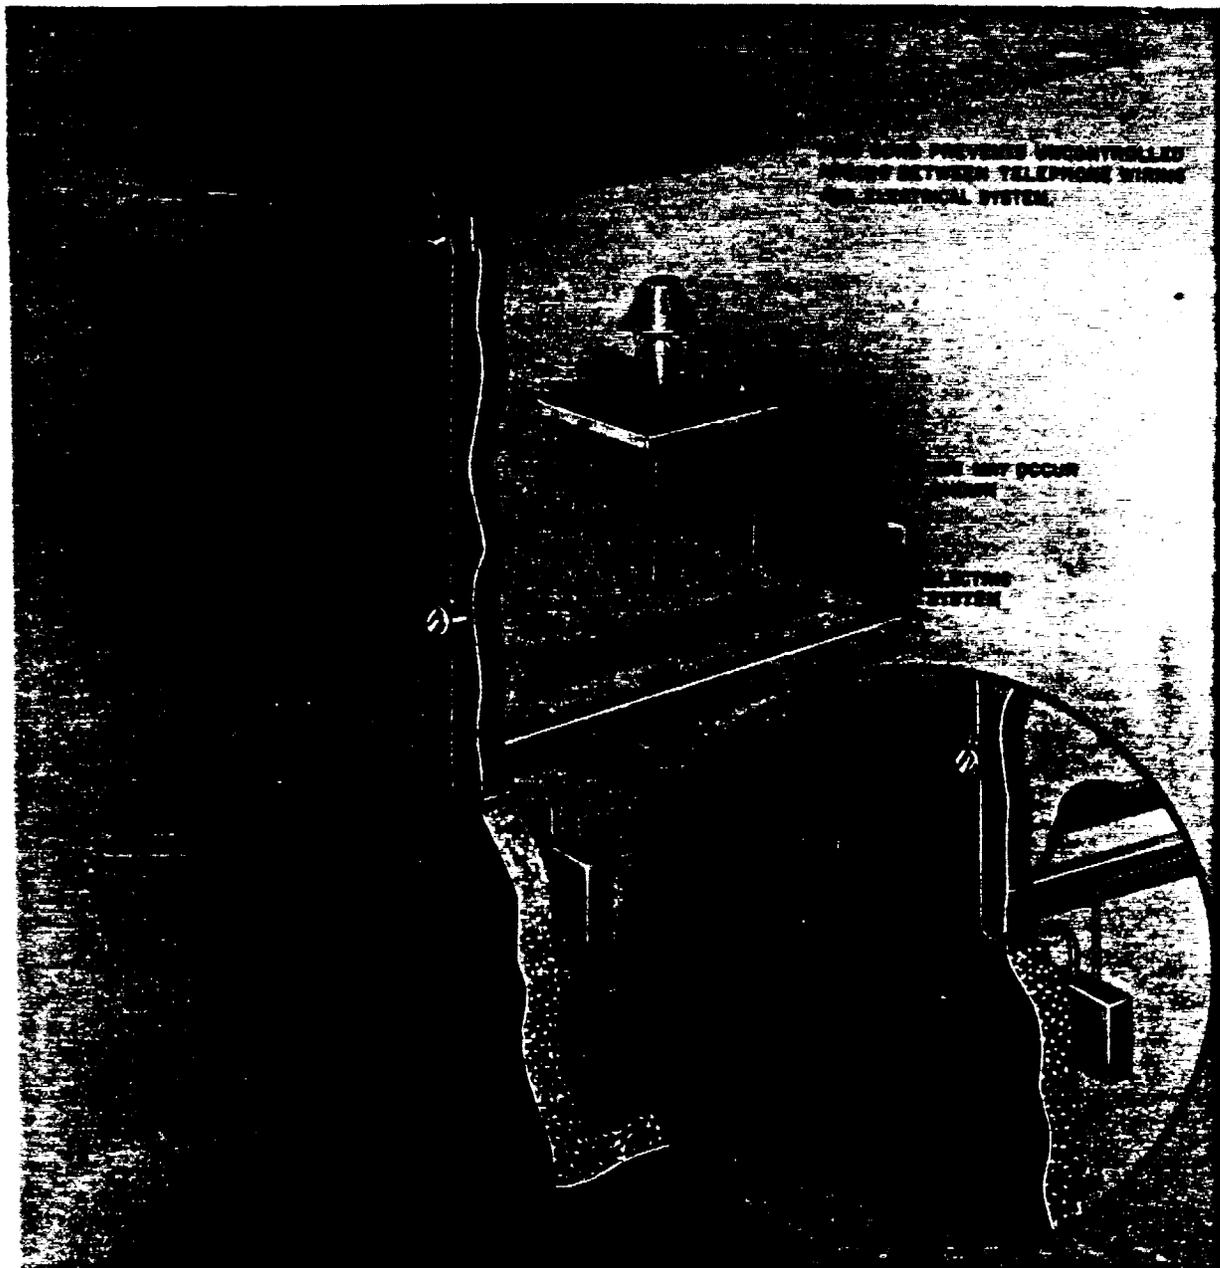

Figure 1—How Bonding Reduces Differences of Potential Between Telephone Wiring and Electrical Systems That Are Grounded to Separate Electrodes
**1.09** Nearby lightning strokes can develop large potential (voltage) differences between telephone wiring, power wiring, water pipes, and building steel. It is important that the customer or owner of the premises ensures that the power is properly grounded and the metallic water pipes and building steel are bonded to the power ground. The station protector ground should be connected to the power ground. Situations resulting in separate power and telephone grounds require that the separate grounds be bonded using a 6-gauge copper conductor. A situation such as this might occur when the power ground is inaccessible at the premises. The technician grounds the station protector to a telephone ground rod and bonds the ground rod to the water pipe. When the customer provides access to the power ground, the telephone company will return to bond the power and telephone grounds. This situation is shown in Figure 1 and covered in Part 6. Telephone grounding and bonding conductors should be as short and straight as possible.